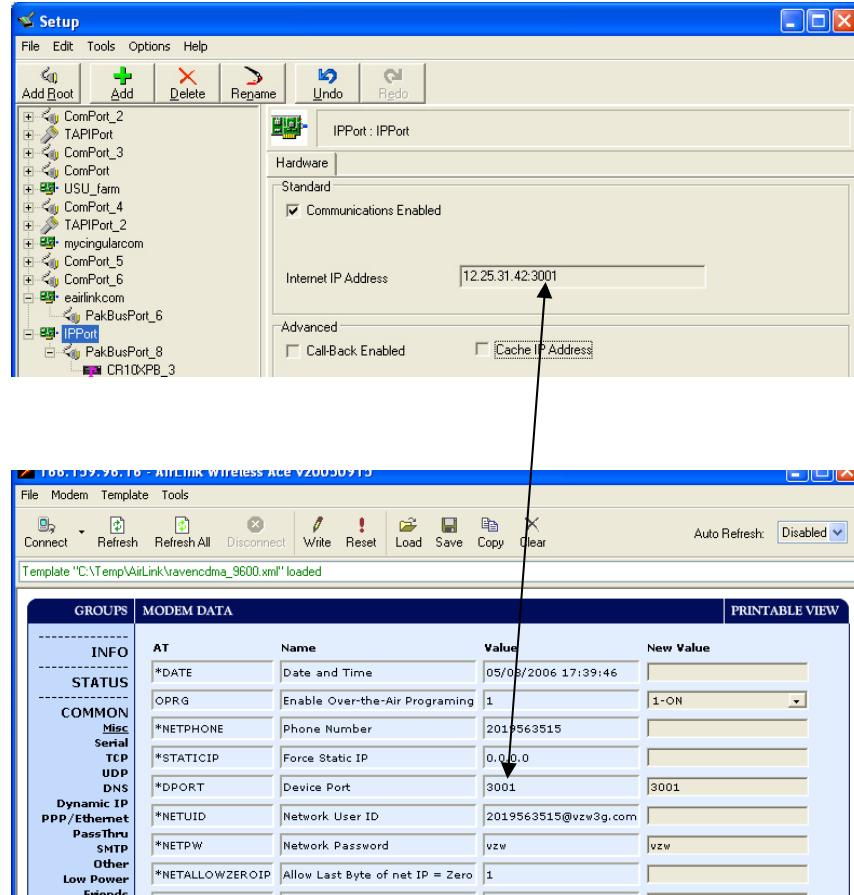

FIGURE 7-1. Device Port configuration
- Make sure the port number at the end of the IP address matches the port number of the RavenXTG (e.g., 3001, see FIGURE 7-1).